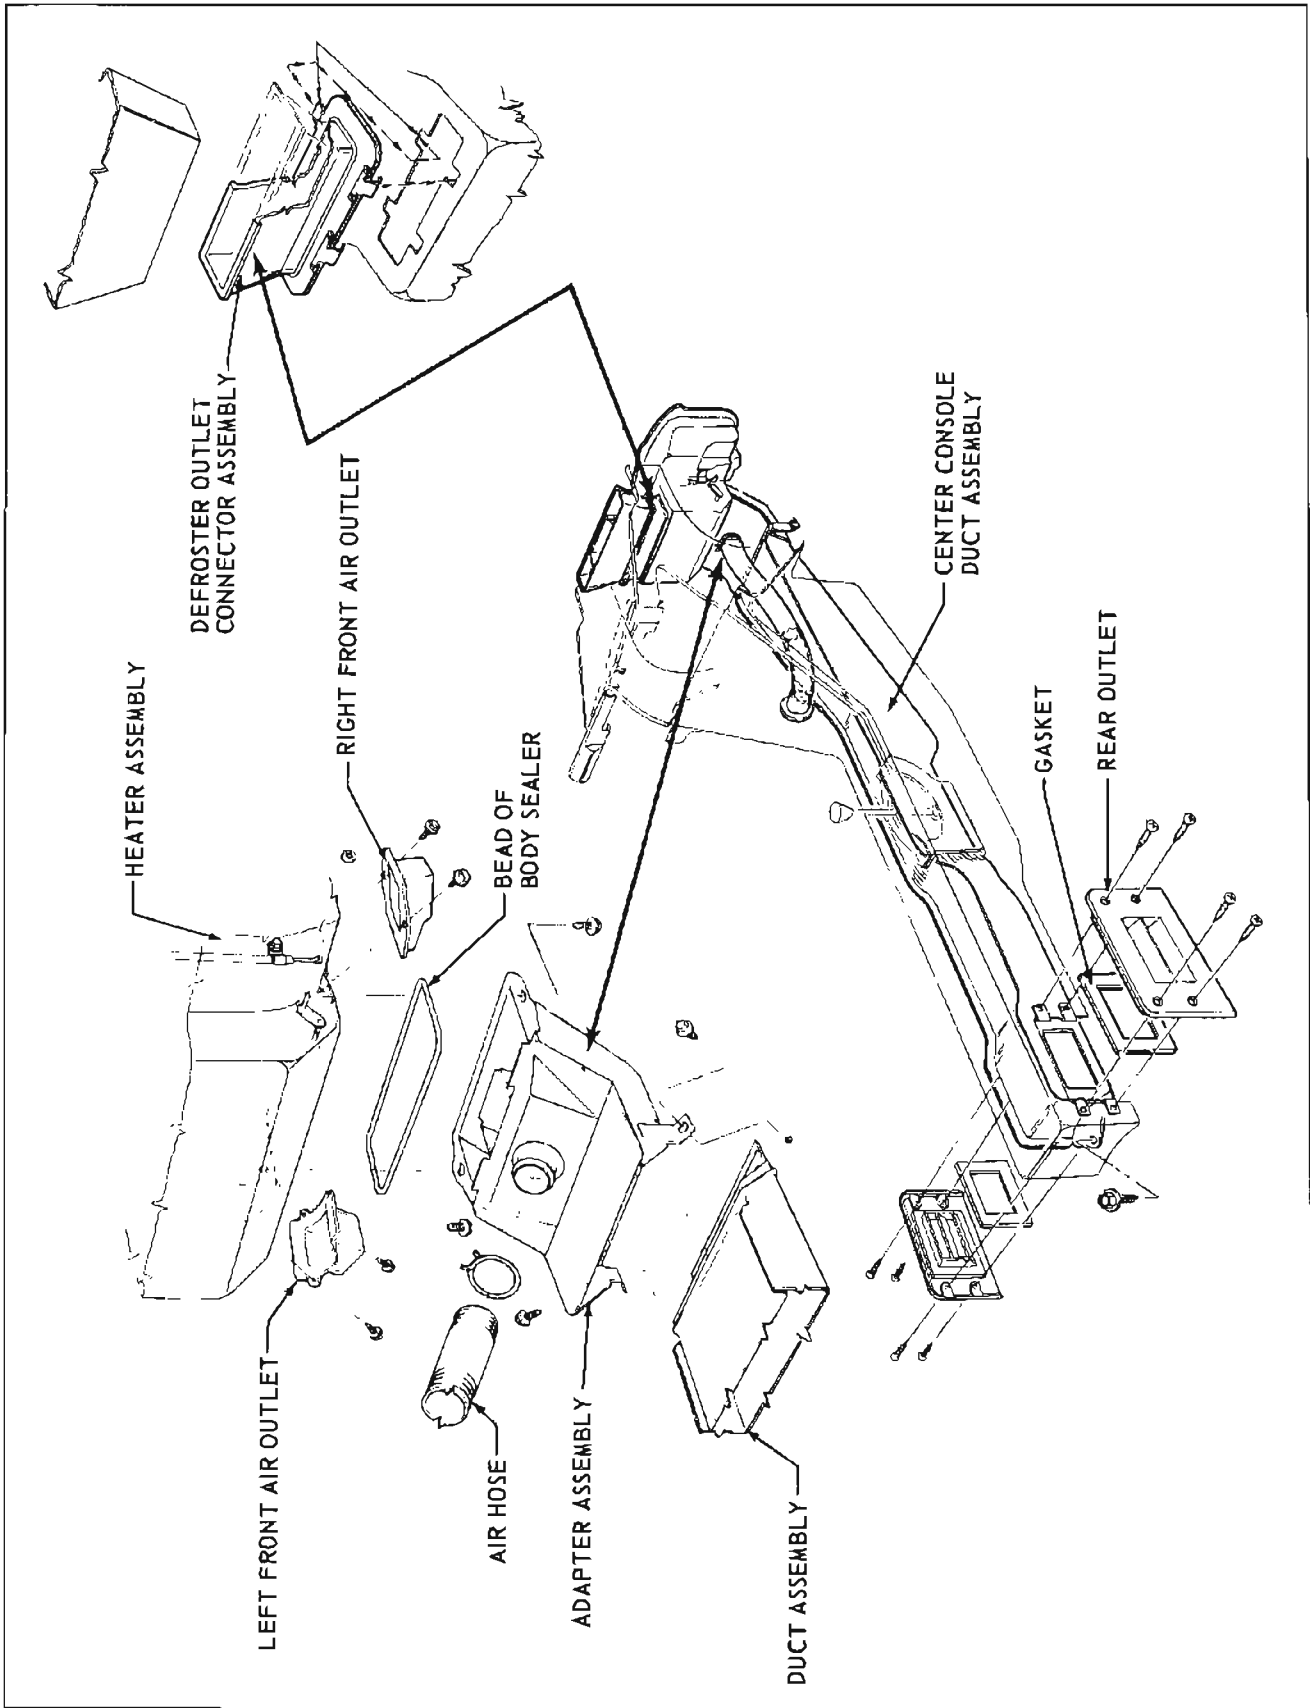

Figure 11-38—Heater System Installation - 4700 Series
and adapter assemblies (see Figure 11-38); (6) a heater and defroster control assembly which controls regulation of doors and blower motor.